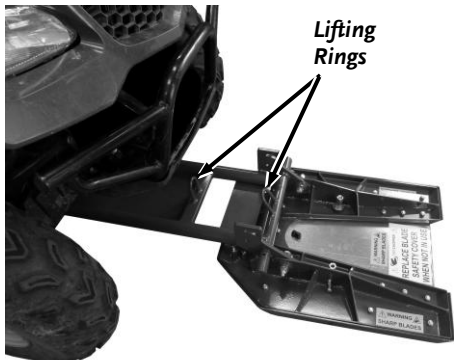

Figure 9
- Slide the Universal Mount and Chassis under the ATV far enough so that the non-removable lifting ring on the chassis is forward of the front of the winch (or other lifting device) by one to two inches. This allows for a slight angle during lifting (Figure 9). The Universal Mount should be centered as closely as possible to the center of the ATV (side to side).